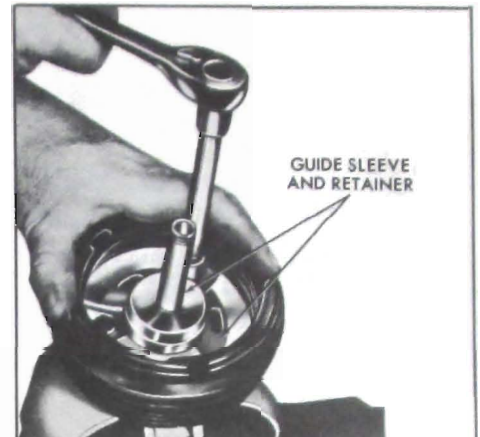

Figure 9-29—Removing Guide Sleeve Retainer
6. Remove three self-locking and sealing cap screws, then remove retainers and guide sleeve assembly with bellows from valve housing. Remove retainers and sleeve assembly from bellows. See Figure 9-29.